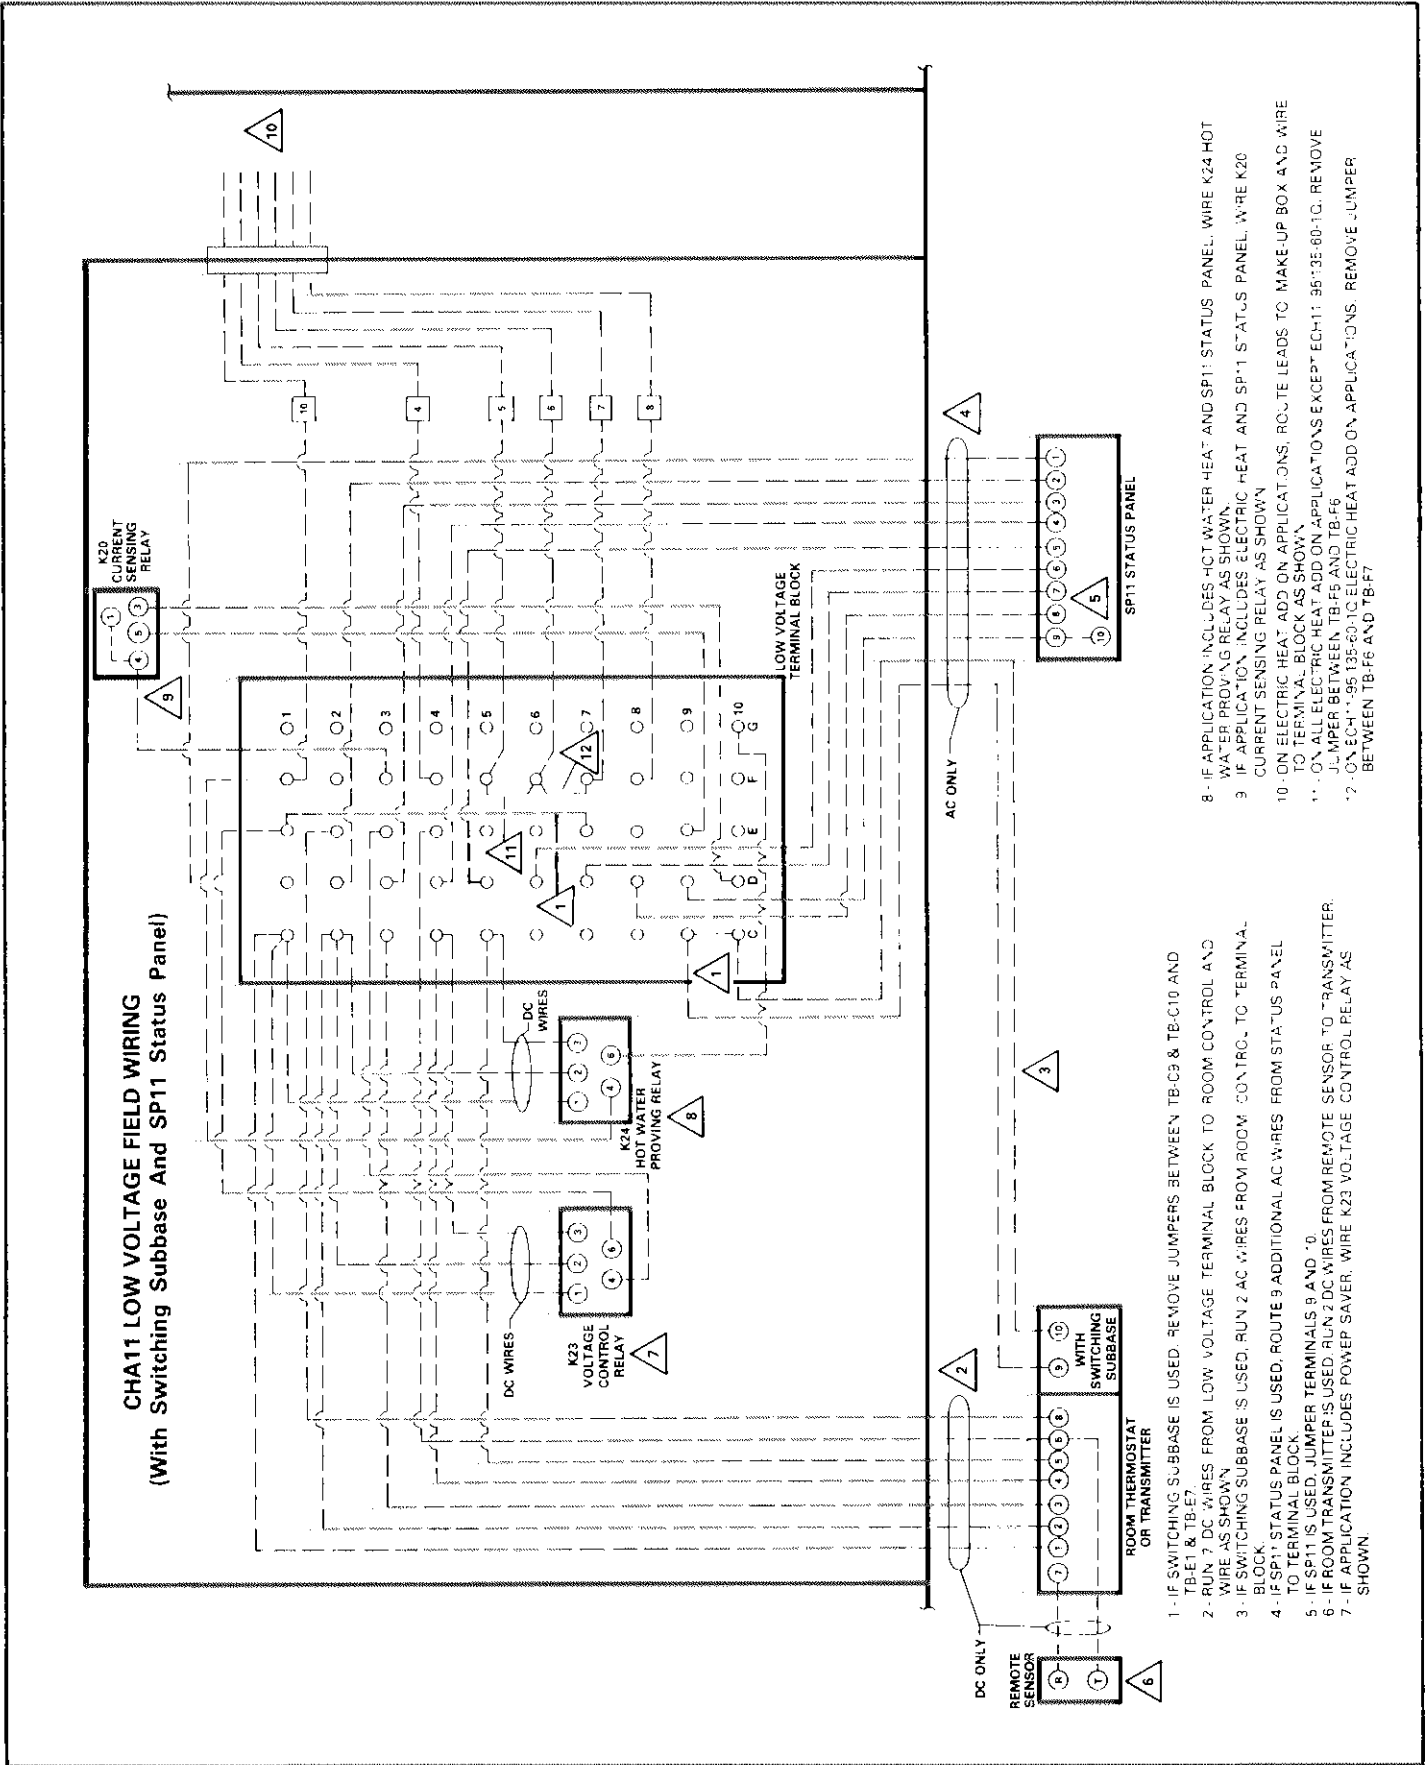
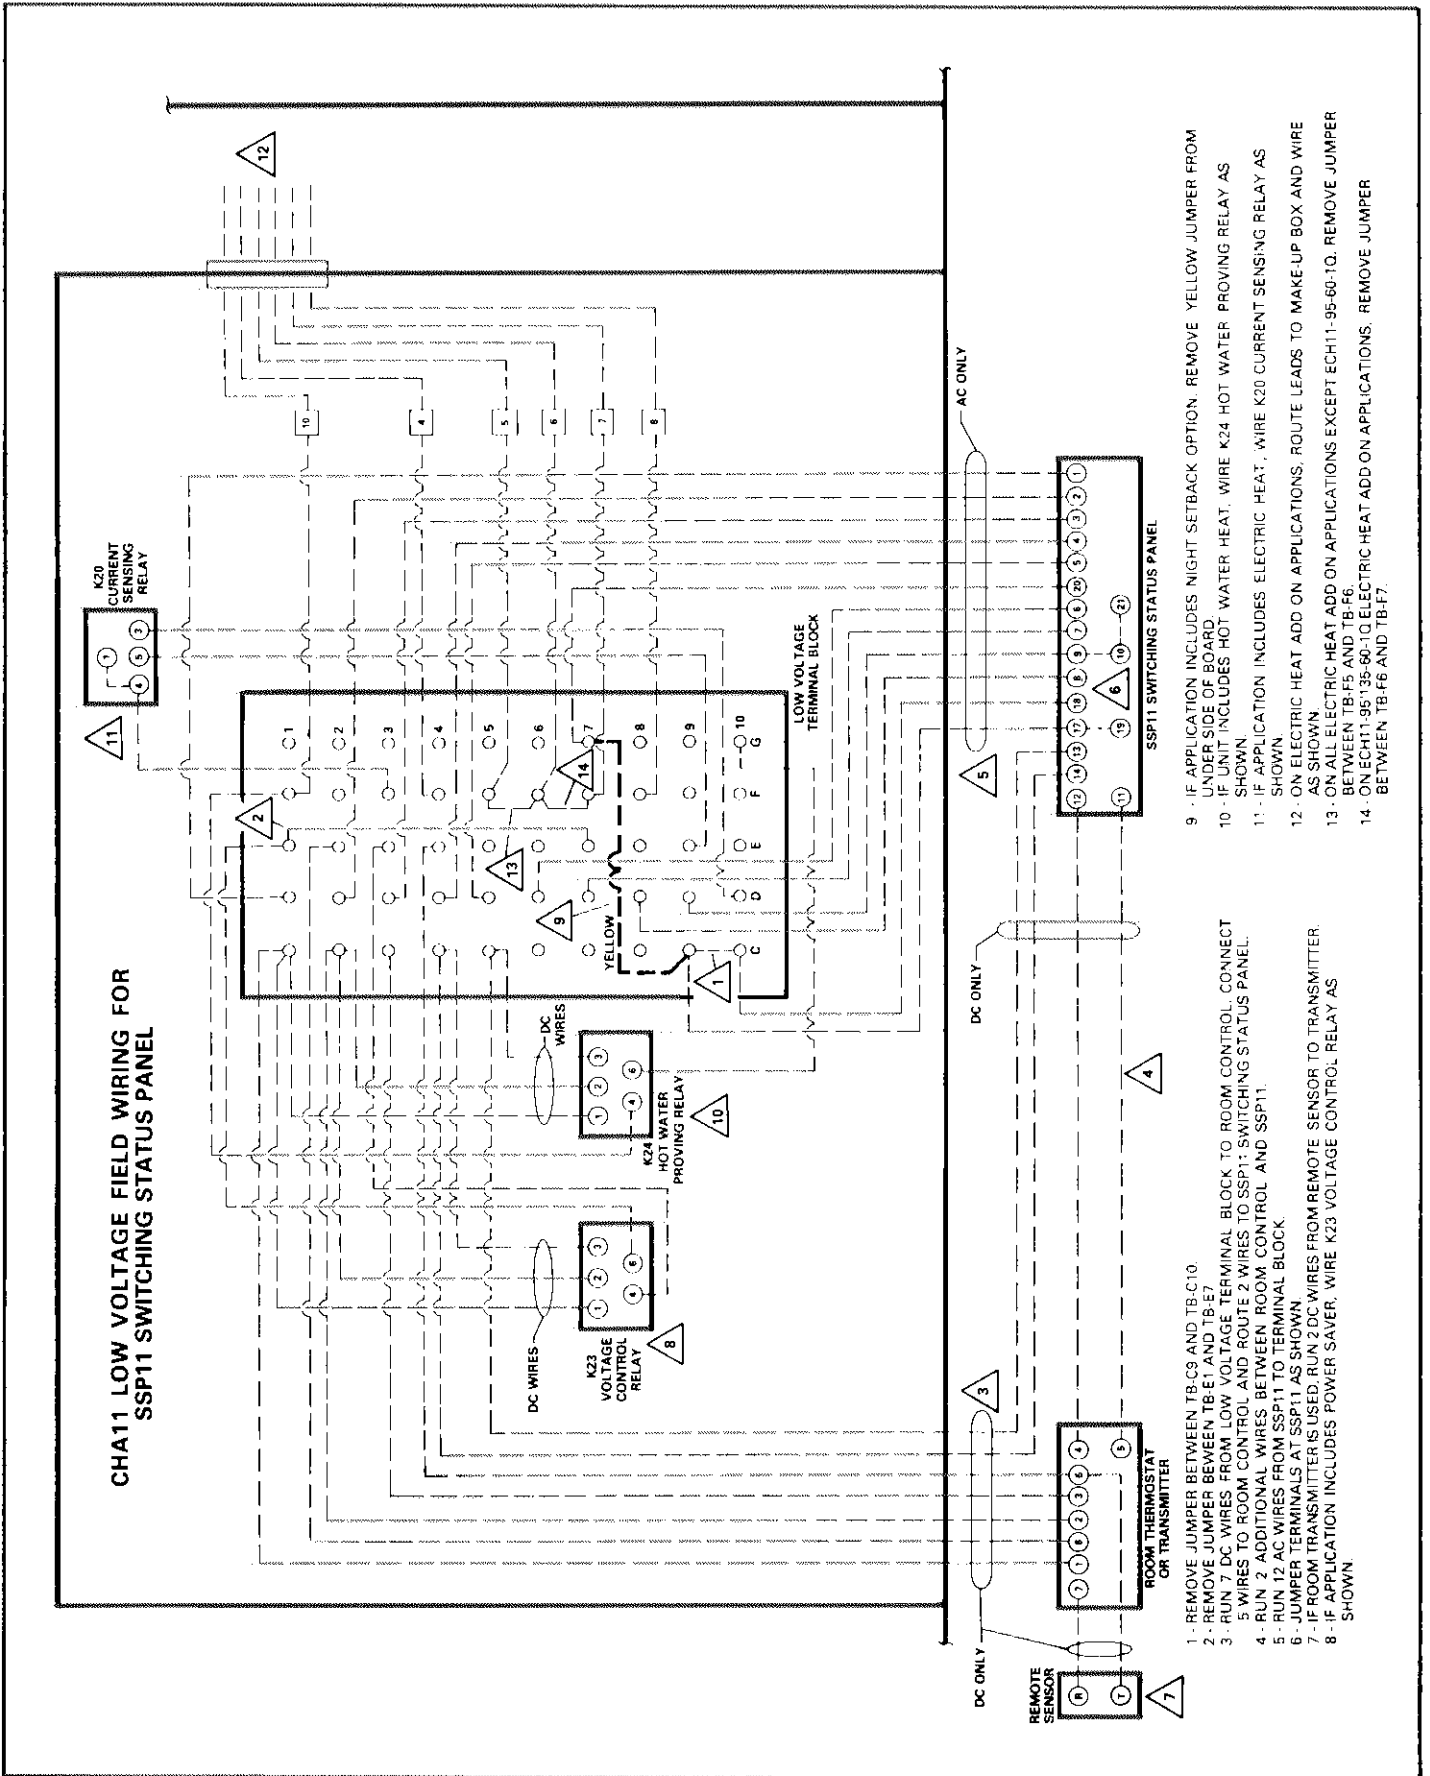

FIGURE 4
FIGURE 5
- 7 - Figure 4 illustrates field wiring for room thermostat or transmitter, switching subbase, status panel and electric heat. Figure 5 illustrates field wiring for room thermostat or transmitter, switching status panel and electric heat. Do not route DC wires in same conduit or raceway as AC current. AC will interfere with the DC ramp signals.